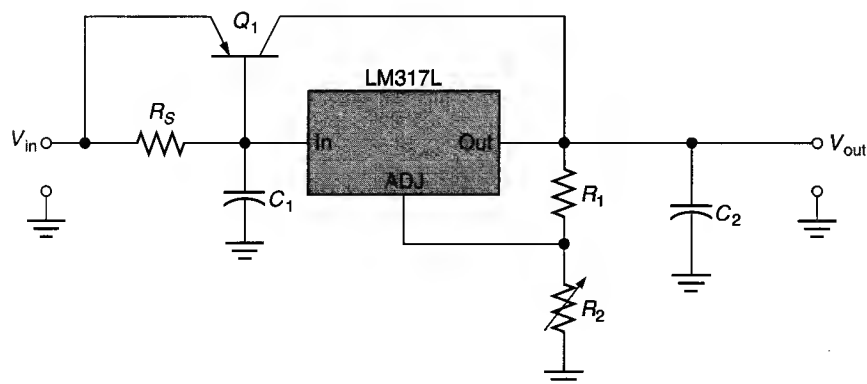
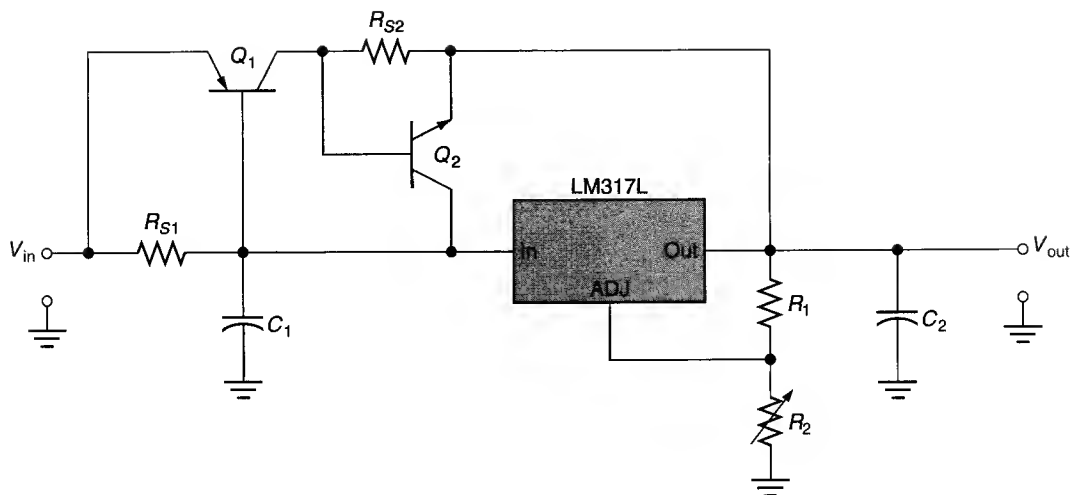

FIGURE 21.15
FIGURE 21.16 A complete linear IC voltage regulator.
Figure 21.15 shows how a *pnp pass-transistor* can be added in parallel with an IC voltage regulator to increase the maximum possible output current. The value of R_S in the circuit is selected to bias Q_1 on as follows:
As is the case with any series regulator, the pass-transistor in Figure 21.15 may be damaged or destroyed if the load demand exceeds the current capability of the component. To protect the pass-transistor from excessive load current demand, a *current-limiting* circuit (Q_2 and R_{S2}) can be added as shown in Figure 21.16. Note that this circuit limits the load current in the same fashion as the current-limiting circuit shown in Figure 21.8.
9. What purpose is served by the circuit shown in Figure 21.15?
10. Why does the circuit shown in Figure 21.15 need to be modified as shown in Figure 21.16?